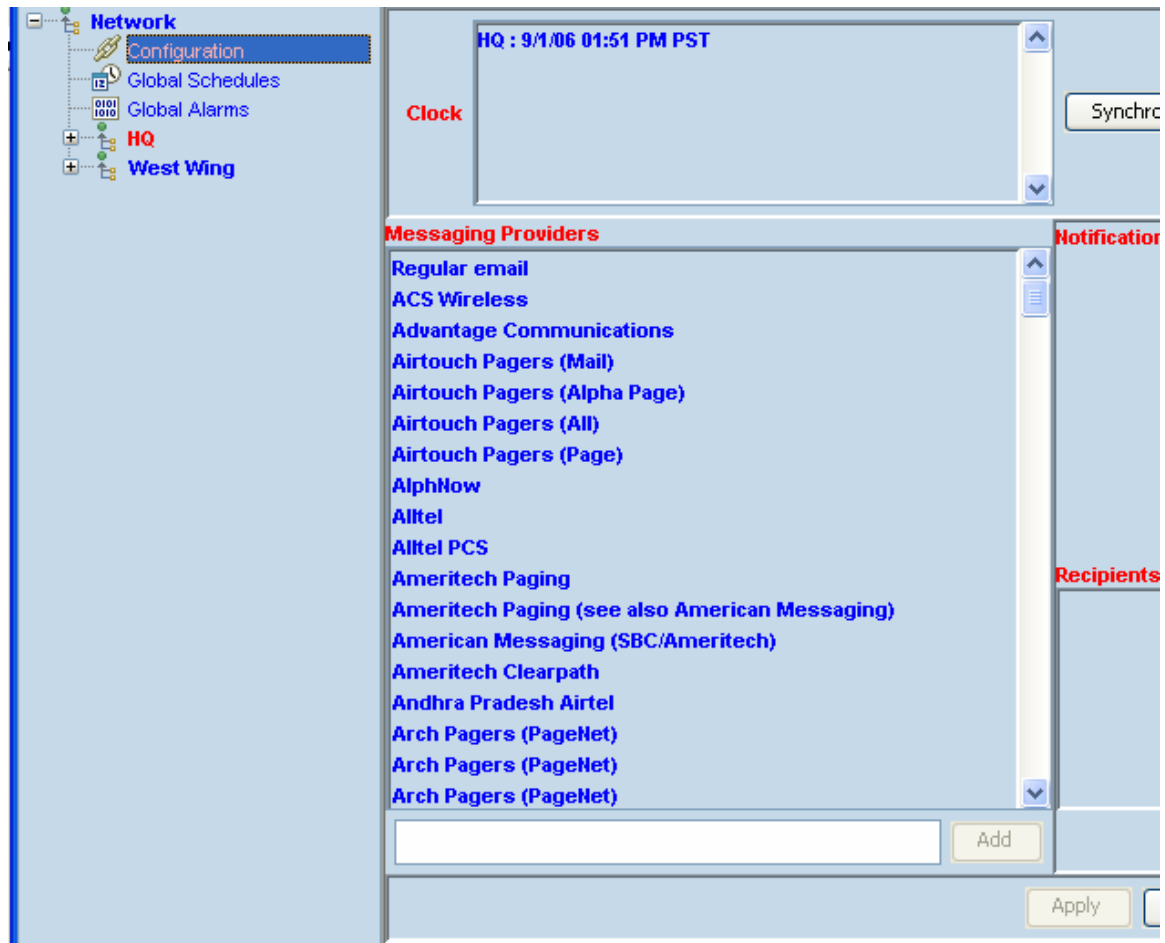

Figure 14 – Configuring the Notifications Engine
To configure the Notifications Engine (Figure 14):
- ii. Enter the recipient's information based on the specific instructions given on the screen (Figure 14)